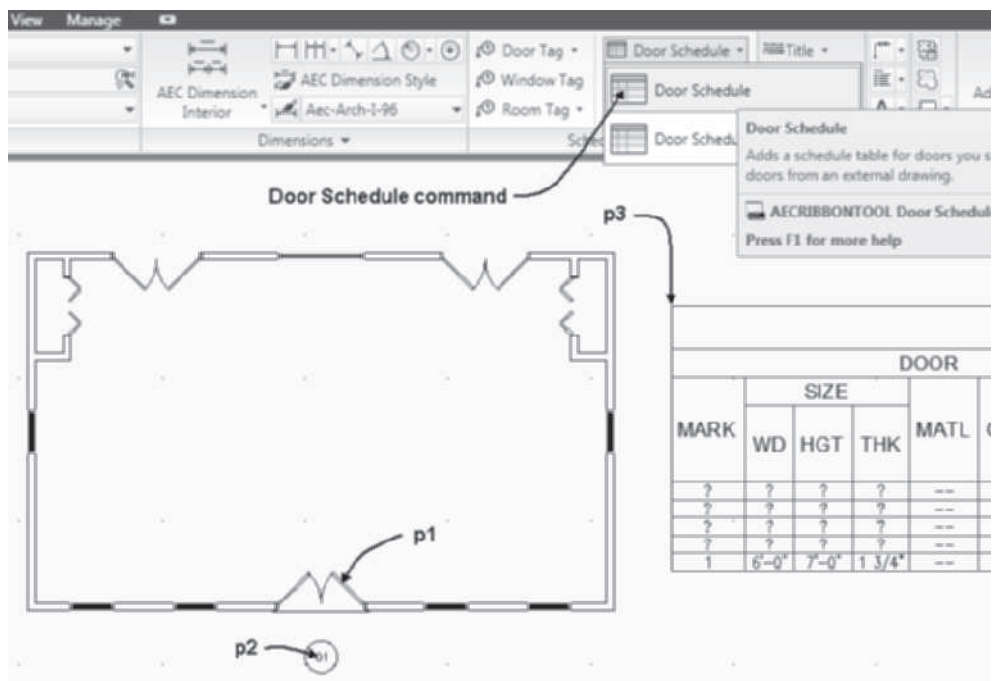

FIGURE 11.83 Door schedule placed in the drawing
Select object to tag: (Select the front door at p1 as shown in Figure 11.83.)
Specify location of tag <Centered>: (Select a location at p2 as shown in Figure 11.83.)
7. Select **Door Schedule** from the Door Schedule flyout of the Scheduling panel. Edit the Design tab of the Properties palette as follows: Style = **Door Schedule**, Scale = **96.00 [100]**, Update automatically = **yes**, Add new objects automatically = **yes**, Scan xrefs = **yes**, Scan block references = **yes**, and Layer wildcard = *****. Respond to the following workspace prompts to place the schedule as shown in Figure 11.83.
Upper-left corner of table: (Select a point near p3 as shown in Figure 11.83.)